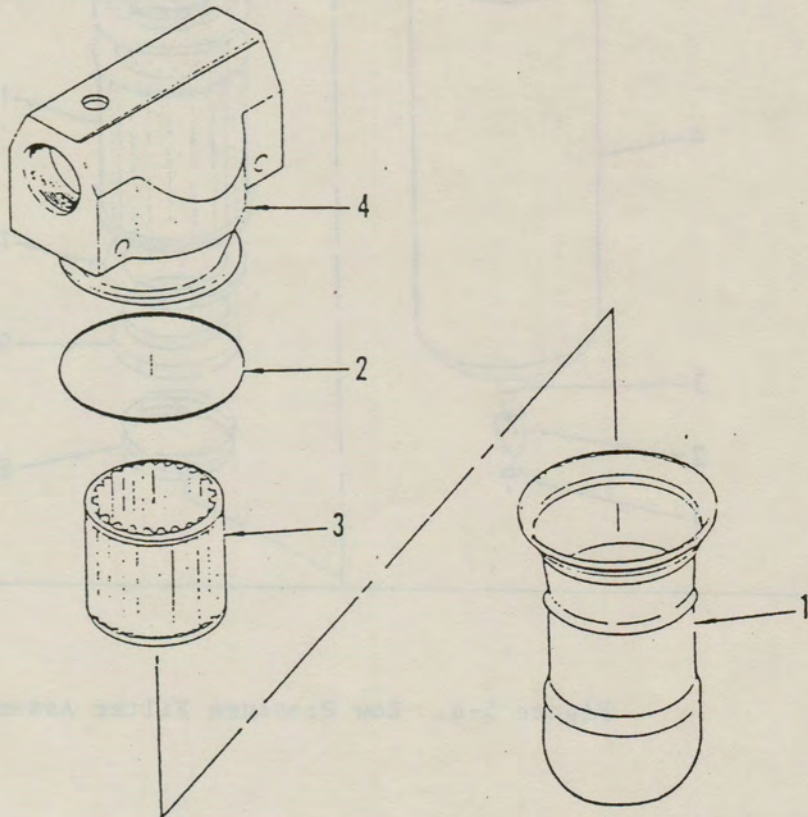

Figure 5-5. Fill System Filter
- c. When pressure drop reaches 50 psig, cleaner replace filter element (3, Figure 5-5) by unscrewing bowl (1) and removing the element.